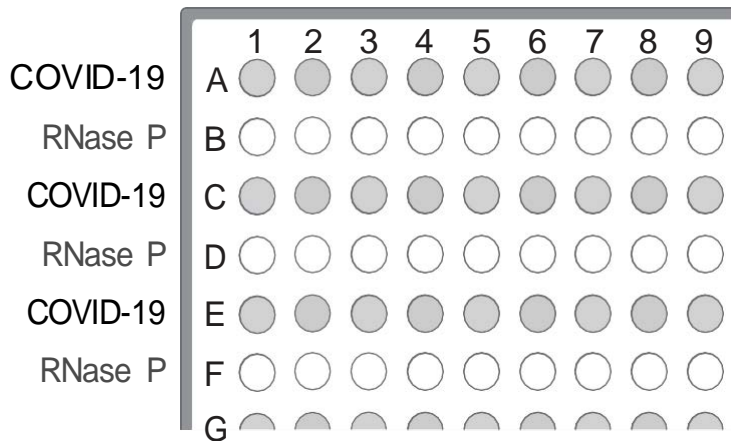

Figure 3 Assays in alternating plate rows
- a. Starting with row A, pipet 10.0 μ L per well of the COVID-19 Reaction Mix into every other row of a MicroAmp™ Optical 384-Well Reaction Plate with Barcode. See Figure 3 on page 57.